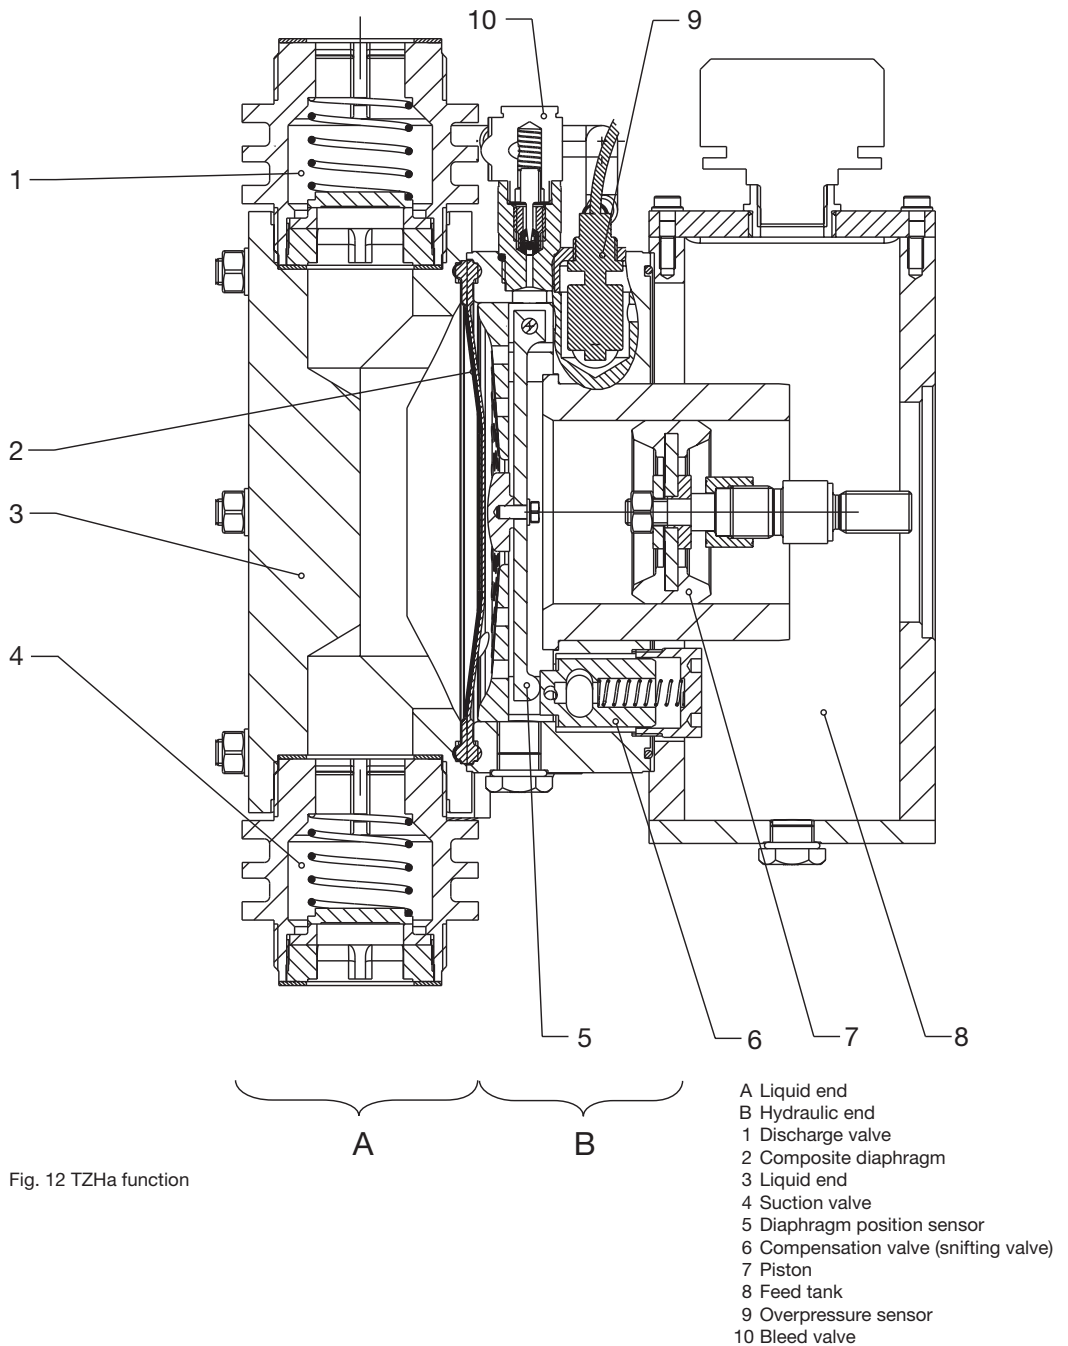

Fig. 12 TZHa function
The pump has a fixed setting **pressure control valve** (see Fig. 12) in the hydraulic end. The pressure control valve protects the pump (not the system!) together with the overpressure sensor (9) and switches off the pump when the feed pressure is too high (=overpressure fuse). If the discharge side of the liquid end is blocked, the pressure control valve opens at the preset pressure and allows the hydraulic oil to flow back into the storage tank (8). The overpressure sensor (9) behind the pressure regulating valve then opens and its contact signal switches off the pump immediately (to be carried out by the customer!). Once the system is running within the correct pressure range the hydraulic end is refilled after a few strokes via the compensation valve (6).